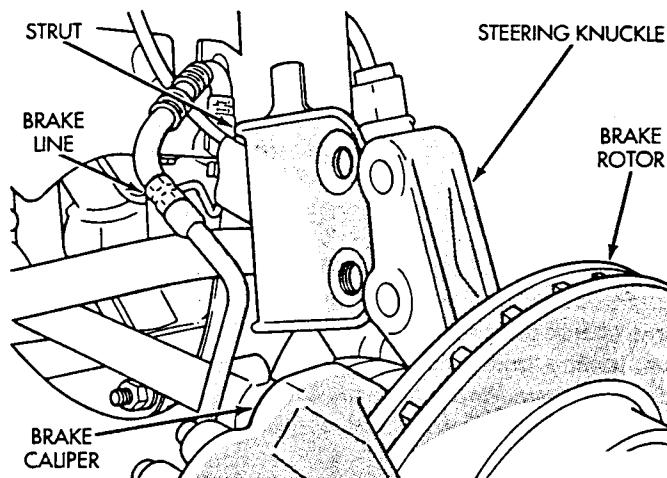

Fig. 3 Strut to Steering Knuckle Bolts
- (5) Lift vehicle on hoist.
- (6) Remove front wheels.
- (7) Remove strut to steering knuckle bolts on both sides of the vehicle (Fig. 3).